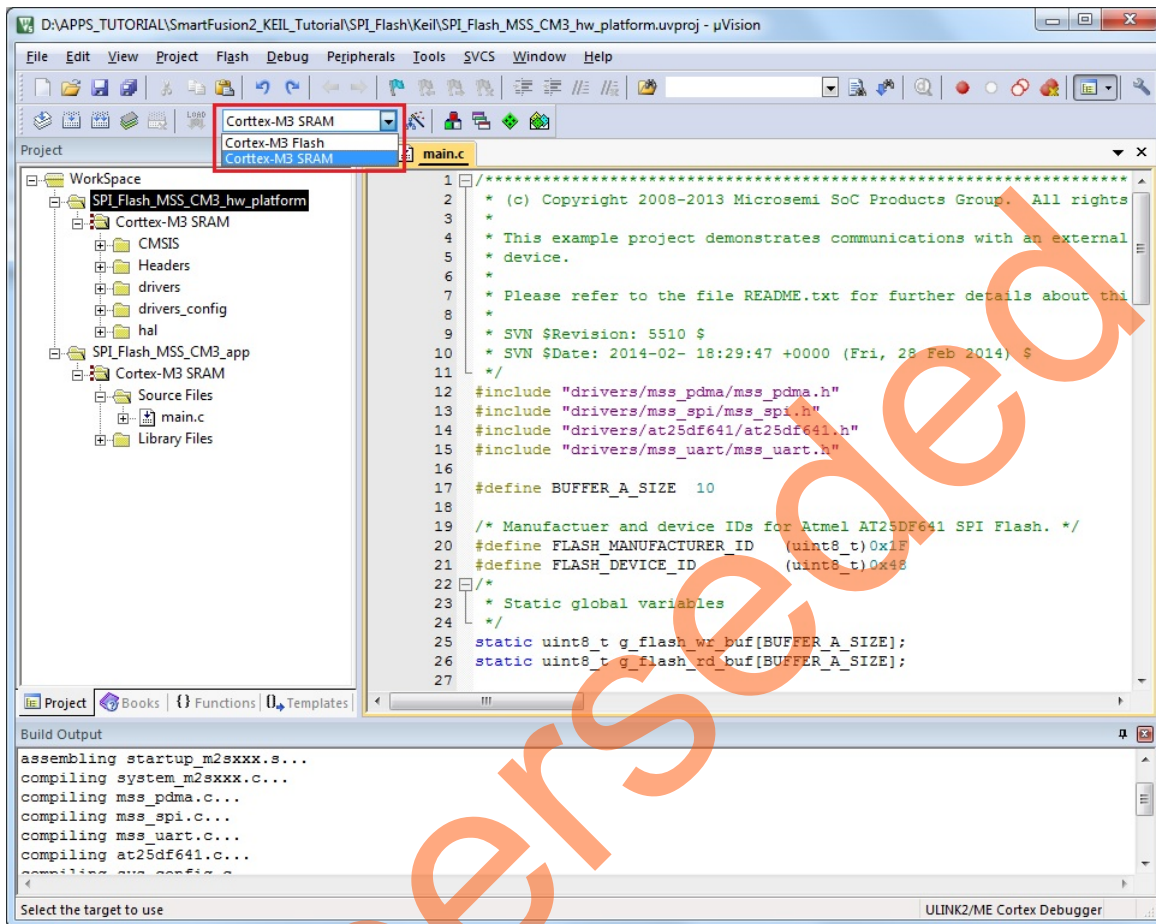

Figure 24 • Cortex-M3_SRAM Settings
7. Change **SPI_Flash_MSS_Cm3_hw_platform** debug mode to **Cortex-M3_SRAM** by selecting **Cortex-M3_SRAM** from the drop-down list, as shown in Figure 24.